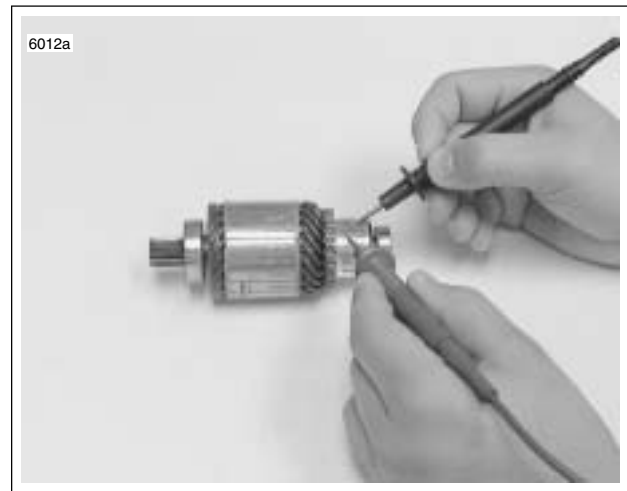

Figure 5-22. Open Armature Test
11. See Figure 5-22. Check for OPEN ARMATURE with an ohmmeter or continuity tester.